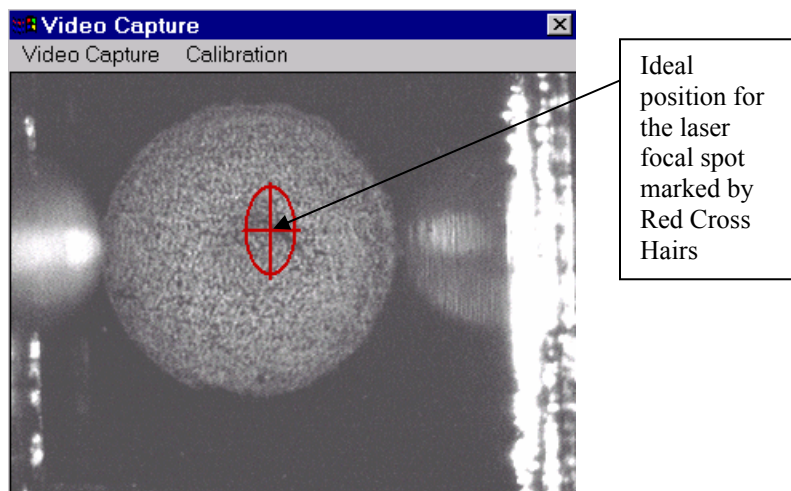

Fig. 8-4 Image of matrix crystals
Step 2. Switch ON the laser, spiral/raster motion OFF. Set the maximum laser power with the attenuator screw. Now you should see the matrix crystal's evaporation at the place where the laser beam is focused (Fig. 8-4)
By comparing the location of the ablation hole with the ideal position shown by the Red Cross-Hairs, we can see that the laser focus is close to its ideal position, but slightly above and to the left. The deviation of the focal point shown in Figures 8-4 and 8-5 is acceptable, especially with PDF activated, but the source sensitivity can possibly be improved by fine tuning.